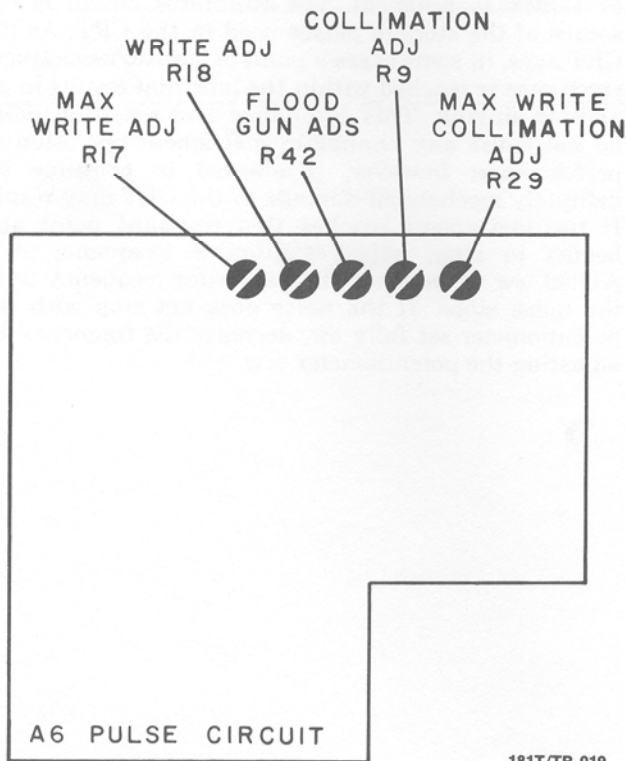

Figure 5-4. Pulse Board Adjustments
- b. Press ERASE PUSHBUTTON. Display should resemble figure 5-5A. If display does not resemble figure 5-5A, but instead fills entire screen, omit steps c and d and proceed with step e. See figure 5-4 for location of adjustment.